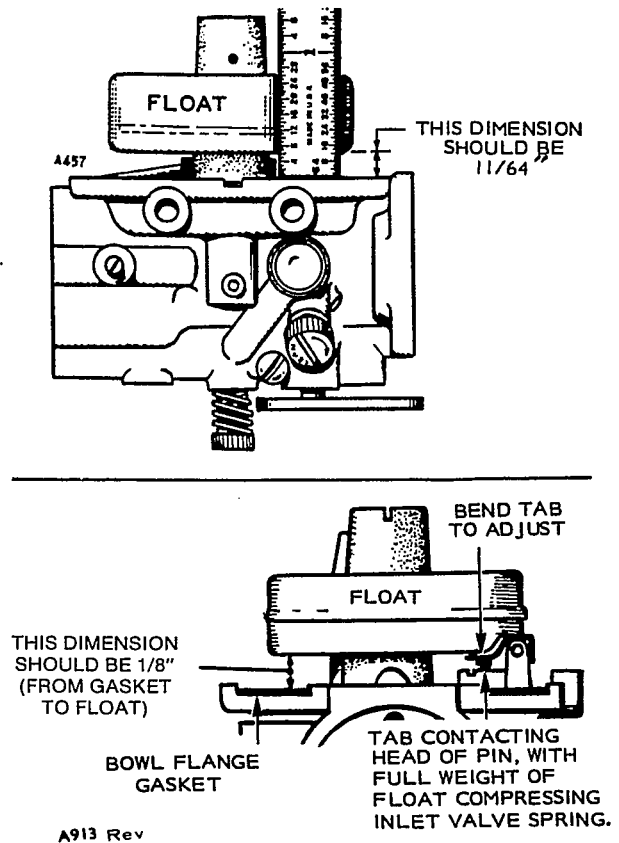

FIGURE 24. SETTING FLOAT LEVEL
Check the adjusting needles and nozzle for damage. If the float is loaded with fuel or damaged, replace it. The float should fit freely on its pin without binding. Invert the carburetor body and measure the float level (Figure 24).
To check float level, remove the entire main fuel adjustment assembly from the float bowl. Unscrew the large nut from the float bowl. Adjust the float level by bending the tab on the float as shown in Figure 24. With the full weight of the float on the spring, the float-to-gasket gap should be 1/16-inch.
6. Check float level with carburetor casting inverted. Set the carburetor float 11/64-inch between the free end of the float and the carburetor body. See Figure 24.